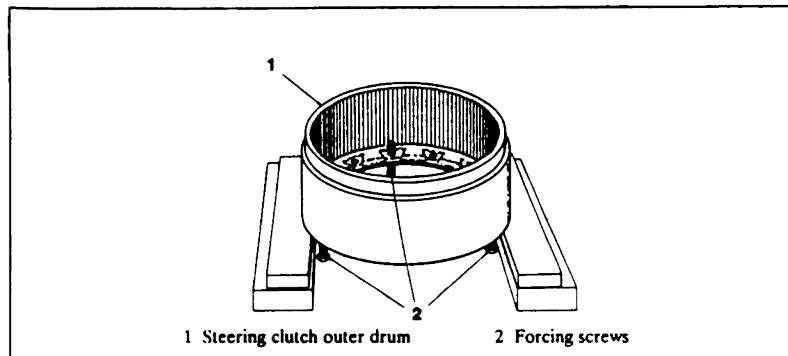

FIGURE 24. CLUTCH ASSEMBLY
Step 1. Insert three 5/8-inch, number 11, forcing screws into the bolting flange of the outer drum until they touch the splines (Figure 24). This prevents the first clutch disc assembly from dropping below the end of the splines on the outer drum.
Step 2. Place the outer drum on blocks as shown in Figure 24.